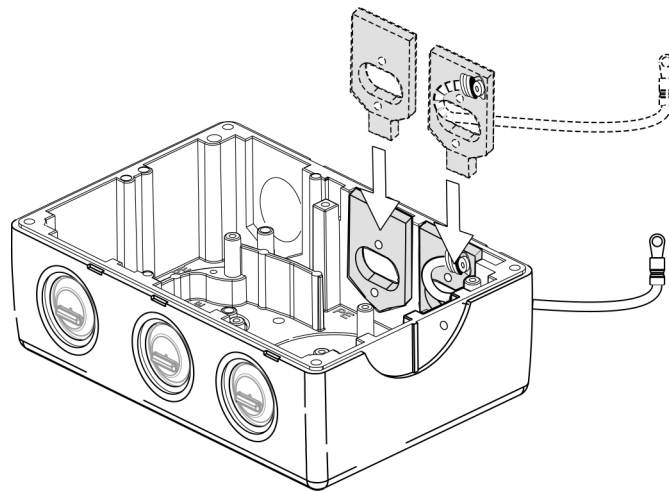

Figure 4-4 Fitting Gland Fixing Plates
7. Slide the fixing plates into the slots provided immediately behind the gland access holes (as shown in Figure 4-4 on page 36).